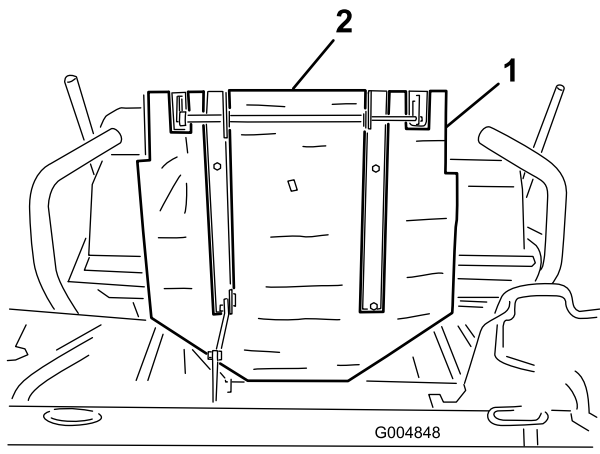

Figure 6
8. Remove the backing and affix the self-adhesive heat shield to the bottom of the seat mount plate (Figure 6).
10. Remove the backing and affix the 2 x 10 inch piece of self-adhesive heat shield between the seat latches on the bottom of the seat mount plate (Figure 6).